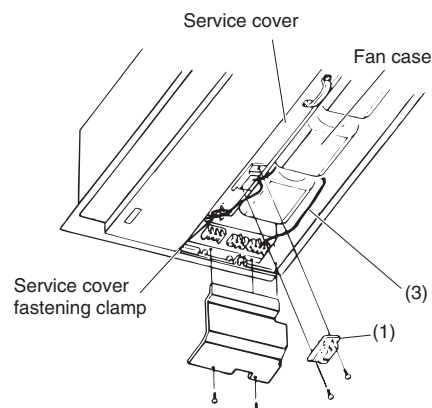

Fig. 3-18
- (1) Use the 2 supplied screws (4 × 10) to fasten the control unit to the service cover (cover with attached handle). (Fig. 3-18)
- (2) Connect the control unit lead wire to the indoor unit remote controller wiring terminal.